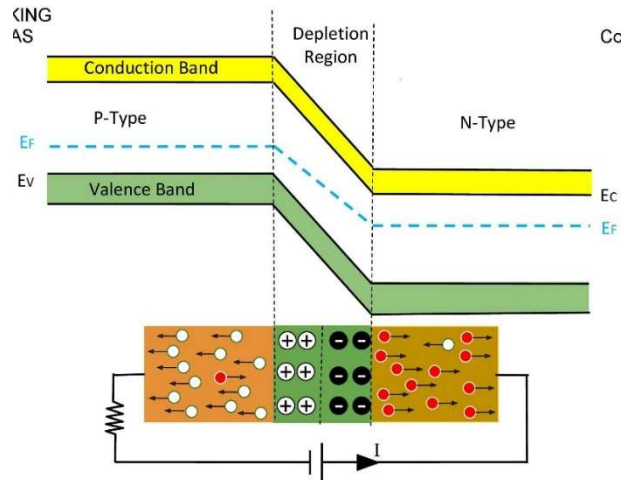

Figure 11f: Reverse bias
Reverse bias PN junction, *Figure 11f*:
2. Electrons from the battery pour into the P-side raising the fermi level there wherein the electrons are drained from the N-side dropping the fermi level on this side. This is indicated by the blue dotted line depicting fermi level for Reverse bias PN junction in Figure 11f.